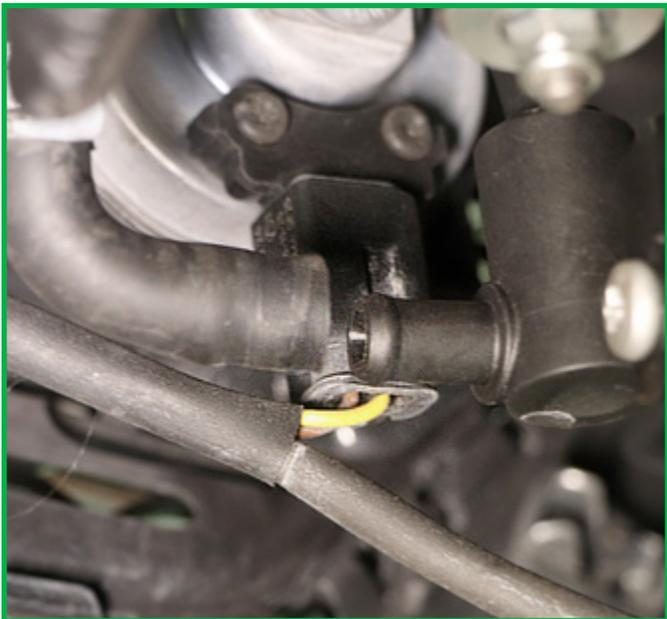

FIGURE 17
4. Reinstall the exhaust hose to the new compressor. (Figures 17, 18)